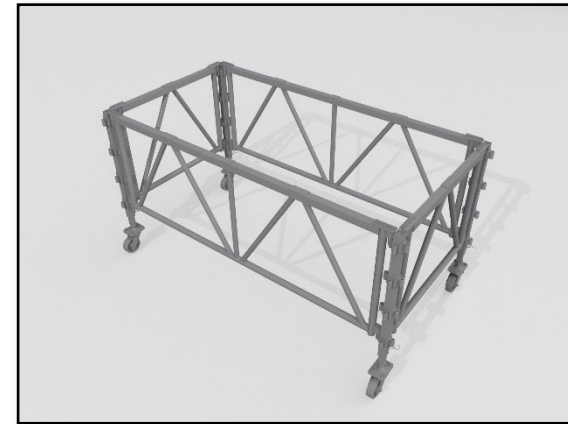

Fig. 20 – Typical Bay of Gates
9.1.6.2 Assemble Gates to Node Posts as described above to form a rectangle with a Node Post in each corner. The gates fit into the adjacent holes in the Node Post at 90 Deg. *Fig. 20 – Typical Bay of Gates*